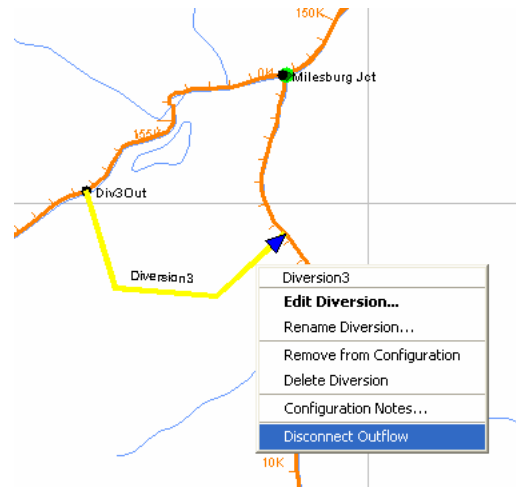

Figure 6.15 Diversion Shortcut Menu
2. Right-click on a Diversion that is connected to another location and select **Disconnect Outflow** from the shortcut menu (Figure 6.15).